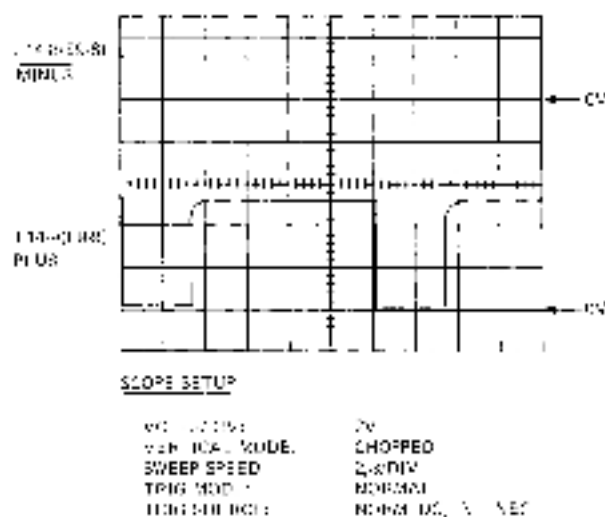

Figure 6-5 DC Servo Motor Being Driven Counter-clockwise
9. Connect the scope to the print controller servo output. Connect channel 1 to E14-8/E9-8 (not MINUS), and channel 2 to E14-9/E9-9 (not PLUS). Set the scope as shown in Figure 6-5. The waveform on the scope should match the waveform in Figure 6-5.